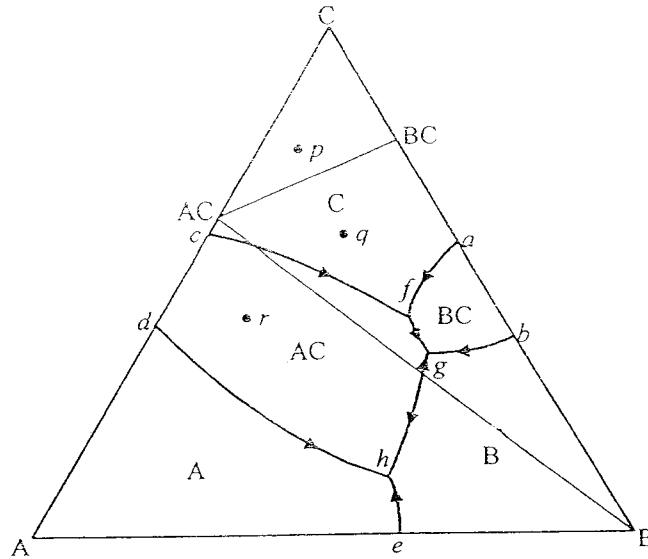

Figure 7: Ternary Diagram for ABC system with AC and BC Compound
- [b] Figure 7 is a phase diagram of ABC ternary system which forms two binary compounds, AC and BC.